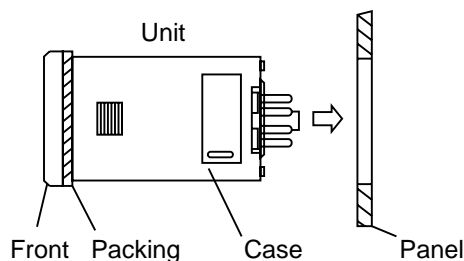

Figure 1
- ① As shown in Figure 1, fit a packing to the case of the unit and then insert it in the panel.